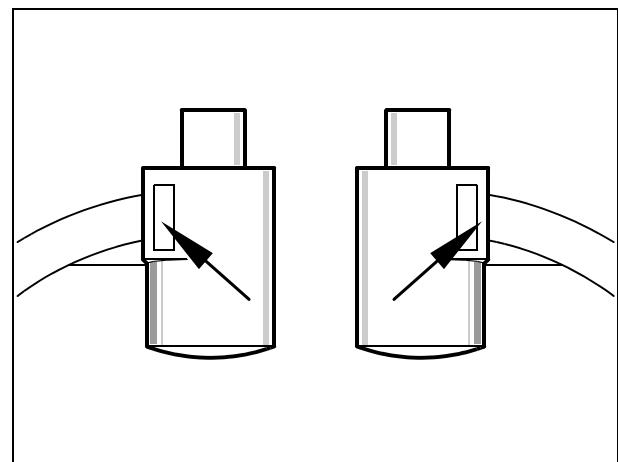

Fig. 1
- Remove both covers from the image intensifier (↗ /Fig.1).